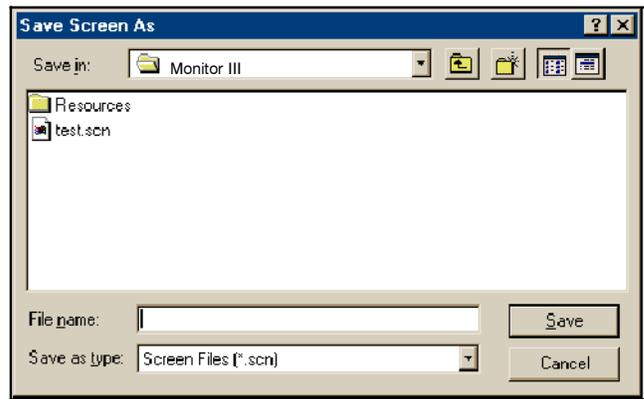

Figure 2-8 Save Screen
2. A dialog box appears. See Figure 2-8. Type in a filename for the screen file. Choose a unique name that identifies the file for future reference. Screen files use the extension `.scn`. Do not type the filename extension; the program appends the extension to the filename automatically.
4. A dialog box similar to the one shown in Figure 2-8 appears. Use the drop-down arrows to change directories if you need to save the file in a different location.